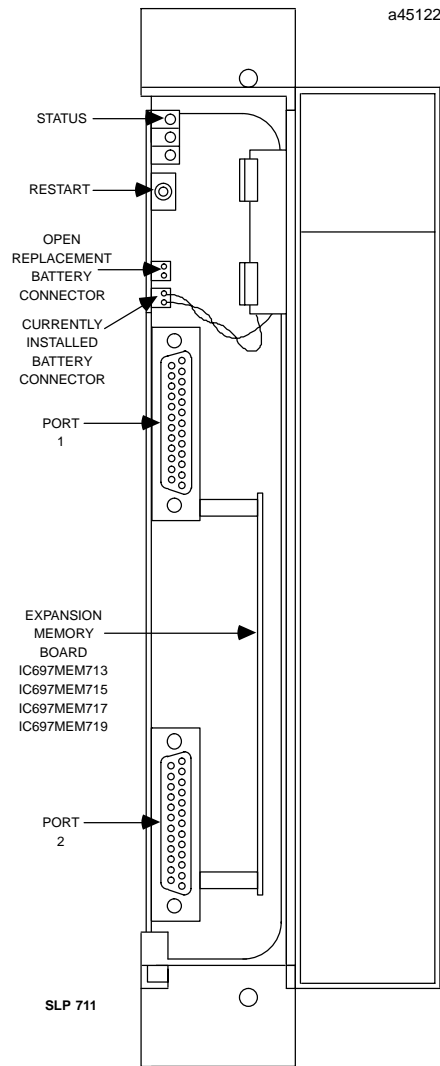

Figure 2. State Logic Processor Module, User Details
- Connect the battery to either of the battery connectors on the module. (See figure 2)
The SLP can operate with or without an expansion memory daughter board. The base memory on the SLP module has 21 Kbytes of user program memory space. The expansion memory daughter board permits expansion of the user program memory space by 64, 128, 256 or 512 Kbytes. The battery which supports this memory is located on the base SLP module housing as shown in figure 2.